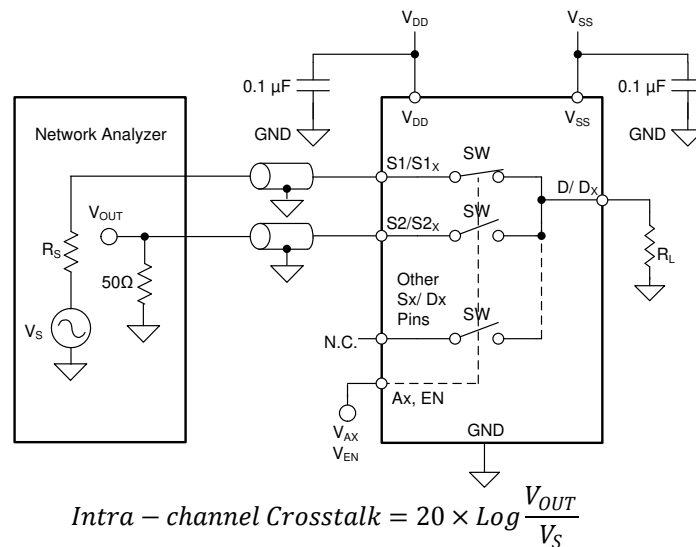

Figure 8-13. Intra-channel Crosstalk Measurement Setup
1. Intra-channel crosstalk ($X_{TALK(INTRA)}$): the voltage at the source pin (Sx) of an off-switch input, when a $1-V_{RMS}$ signal is applied at the source pin of an on-switch input in the same channel, as shown in Figure 8-13.